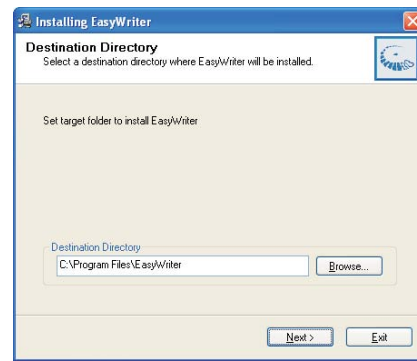

Fig. 4
Step 4 : Double click the EasywriterV2.09a_user.exe icon to install the Application as Fig. 4.